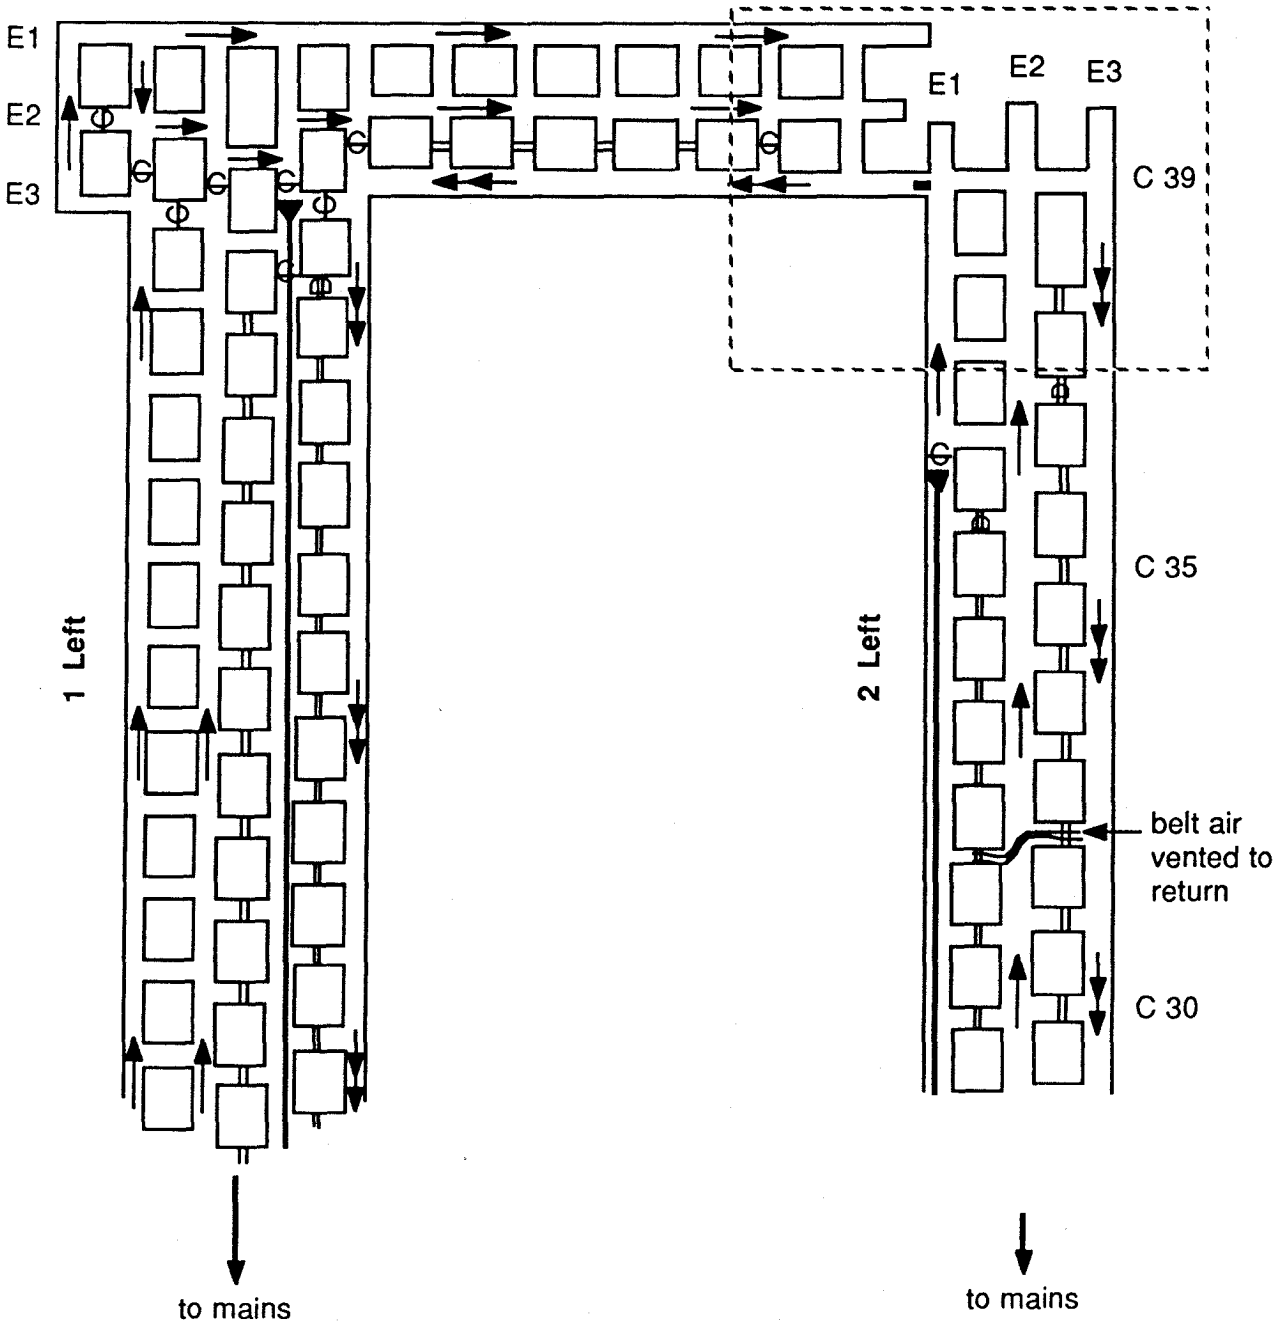

Figure 2A: Sketch your ventilation arrangement for this situation
7. Sketch how you would ventilate the faces on the map in Figure 2A. Mark the section of the map in the doffed line box. (Write only on the answer sheet.)